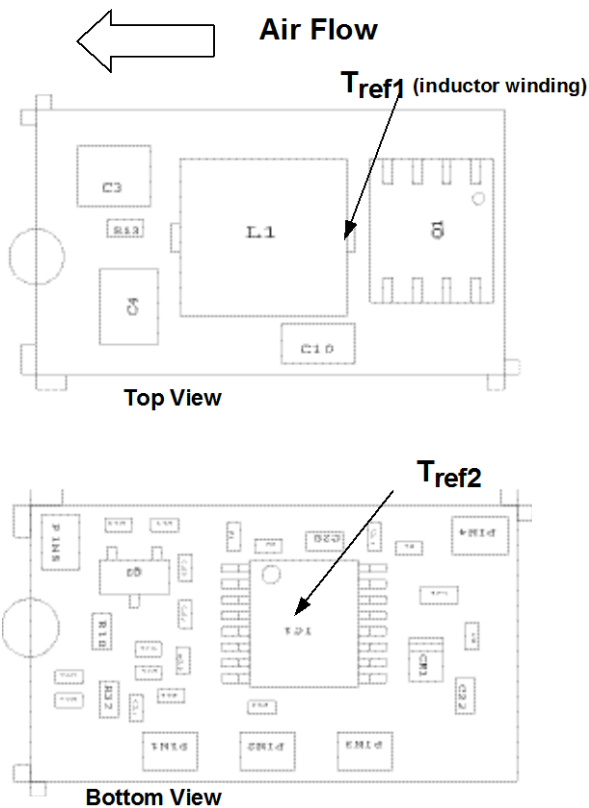
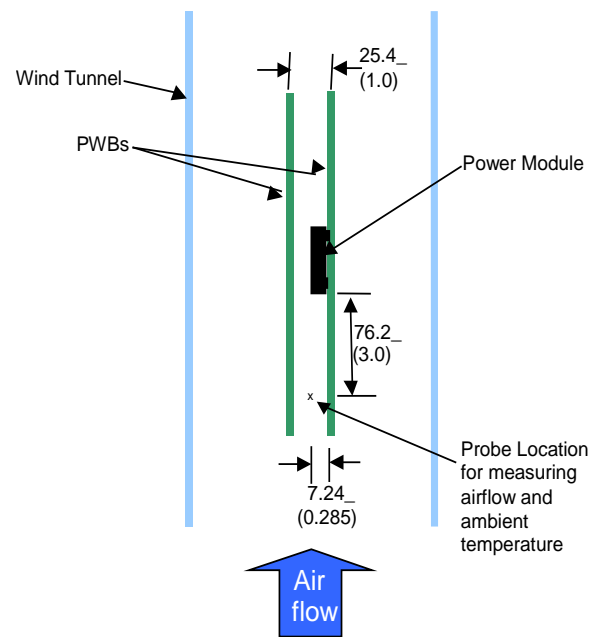

Figure 32. Tref Temperature measurement location.
Figure 33. Thermal Test Set-up.
To provide over temperature protection in a fault condition, the unit relies upon the thermal protection feature of the controller IC. The unit will shutdown if the thermal reference point  $T_{ref2}$ , (see Figure 33) exceeds  $140^{\circ}C$  (typical), but the thermal shutdown is not intended as a guarantee that the unit will survive temperatures beyond its rating. The module will automatically restarts after it cools down.
Considerations include ambient temperature, airflow, module power dissipation, and the need for increased reliability. A reduction in the operating temperature of the module will result in an increase in reliability. The thermal data presented here is based on physical measurements taken in a wind tunnel. The test set-up is shown in Figure 33. Note that the airflow is parallel to the long axis of the module as shown in figure 32. The derating data applies to airflow in either direction of the module's long axis.
The thermal reference point,  $T_{ref1}$  used in the specifications of thermal derating curves is shown in Figure 32. For reliable operation this temperature should not exceed 125°C.